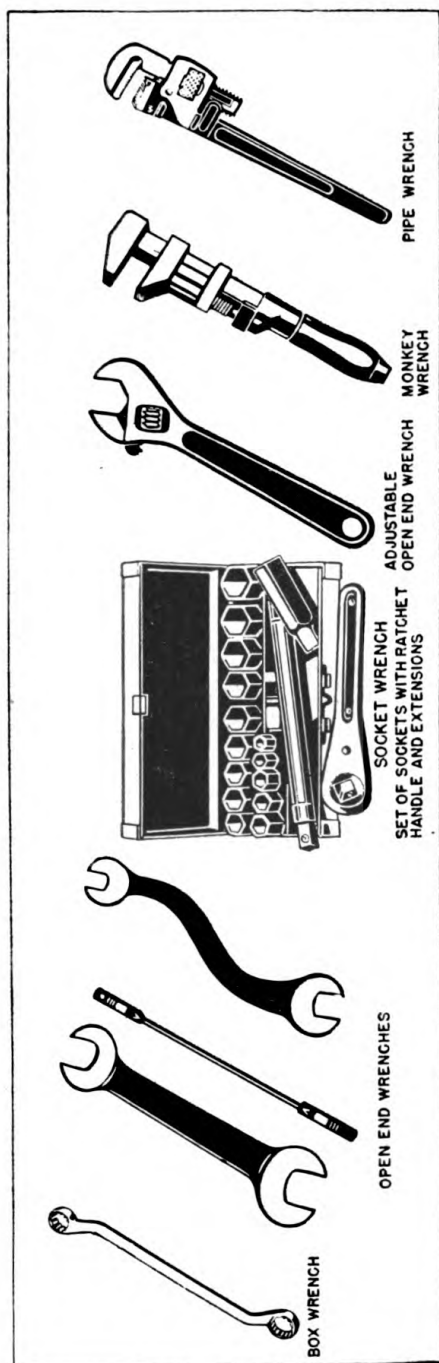

FIGURE 11.—Types of wrenches.
5. Wrenches.—*a. General.*—Wrenches are tools for tightening or removing nuts, bolt heads, or cap screws; or for gripping round material such as pipe, studs, and round rod. They are generally classified as adjustable wrenches, socket wrenches, open-end wrenches, box wrenches, and pipe wrenches, as shown in figure 11.